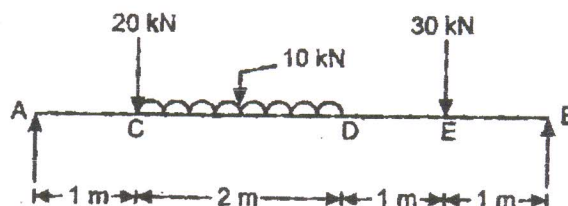

Fig.5
6. (a) Determine the deflection at point C, D and E in the beam shown in Fig.5. Take $E = 200$ kN/mm² and $I = 60 \times 10^6$ mm⁴. [5]